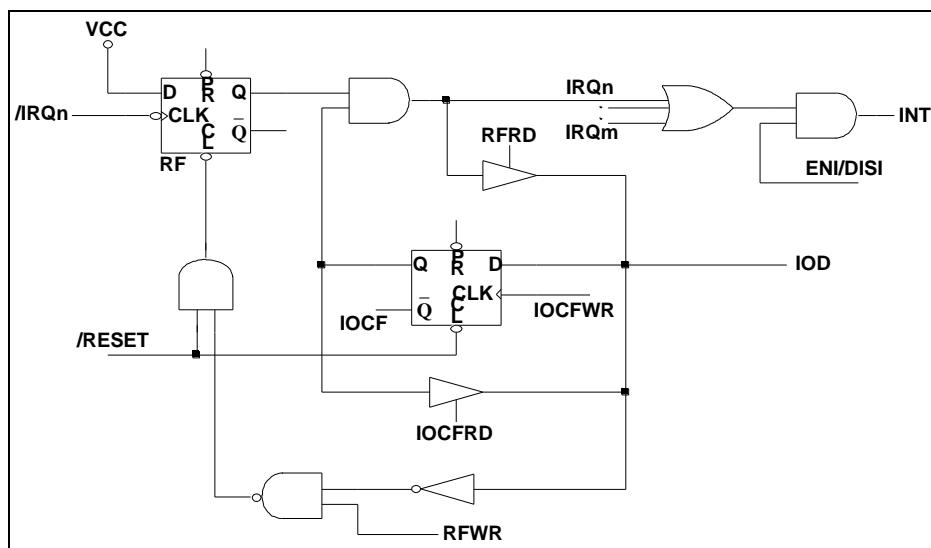

Figure 5-6 Interrupt Input Circuit
The flag (except ICIF bit) in the Interrupt Status Register (RF) is set regardless of the status of its mask bit or the execution of ENI. Note that the outcome of RF will be the logic AND of RF and IOCF (refer to Figure 5-6 below). The RETI instruction ends the interrupt routine and enables the global interrupt (the execution of ENI).